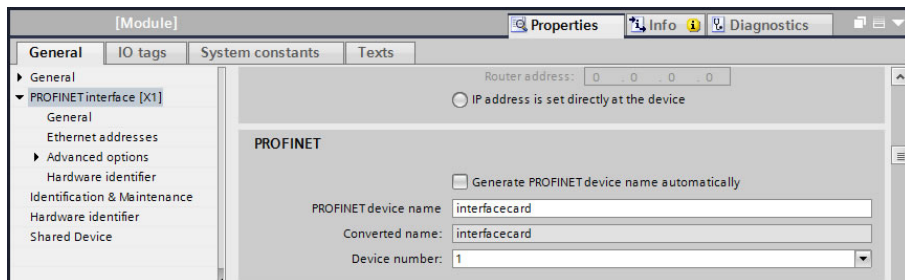

Figure 86: Assign Unique Device Name
2. Assign a unique **PROFINET device name** as shown in Figure 86.